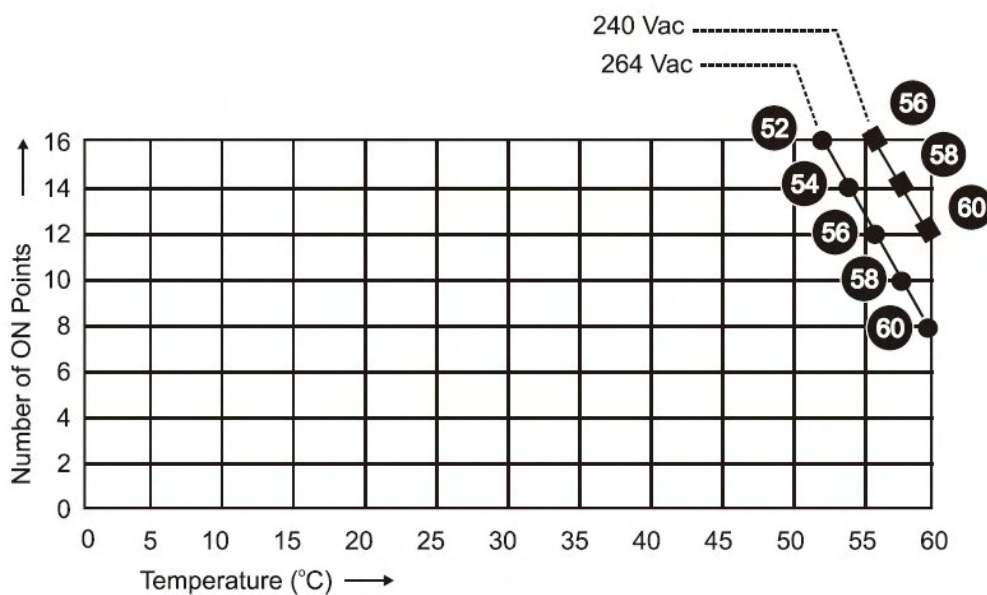

Figure 29 – AC Input Module de-Rating
2. For 240 Vac applications and temperatures above 56° C, or 264Vac, 52° C, de-rate the number of ON inputs per AC input module. (See AC Input de-rating data, see Figure 29.)